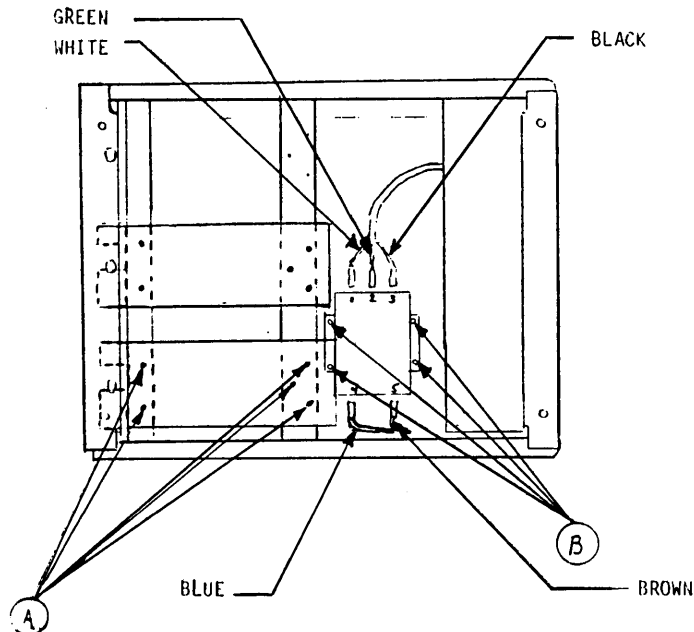

Figure 4-16. Filter 2 Terminal Locations
7. Disconnect the three wires leading from filter 2 to the power supply. (Refer to Figure 4-16.)